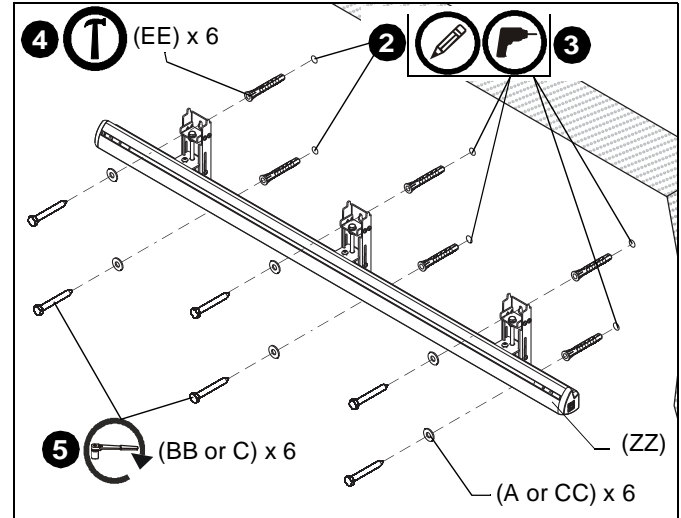

Figure 4
2. Using a level, mark the wall above existing chalkboard/whiteboard through mounting holes in each bracket on the wall assembly (ZZ). (See Figure 4)
3. Drill one 5/16" x 2-3/4" pilot hole at each marking. (See Figure 4)
4. Install an anchor (EE) into each pilot hole using a hammer. (See Figure 4)
5. Use six 1/4-20 x 2-1/2" lag bolts (BB or C) and six 1/4" flat washers (A or CC) to attach wall assembly (ZZ) to anchors in wall. (See Figure 4)